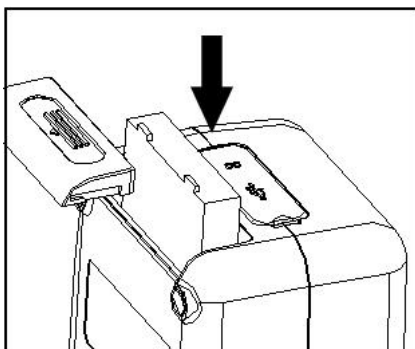

Figure 3. Mounting the battery
2. Mount the battery into the compartment as shown in Figure 3, pay attention to the front and back of the battery.